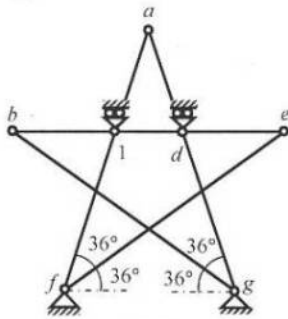

Fig. 6
6. Use Flexibility Method to calculate the forces in all members of the truss $abcdefg$ shown in Fig. 6, if support d settles 0.03-m downward [Given: $EA/L = \text{constant} = 5000 \text{ kN/m}$].